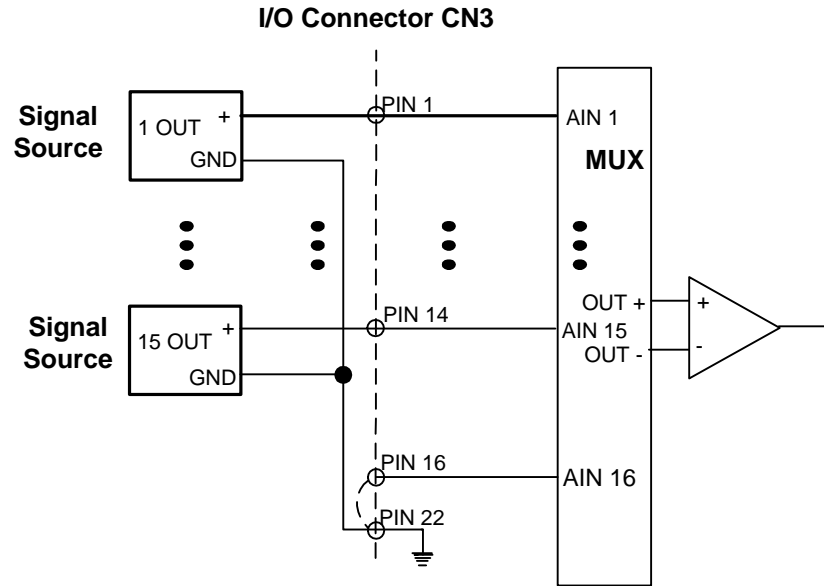

Figure 6. Single-Ended Input Connections.
2. Connect the low side to an ANALOG GND (pins 18 and 20-22 on CN3). **Figure 6 shows how these connections are made.**